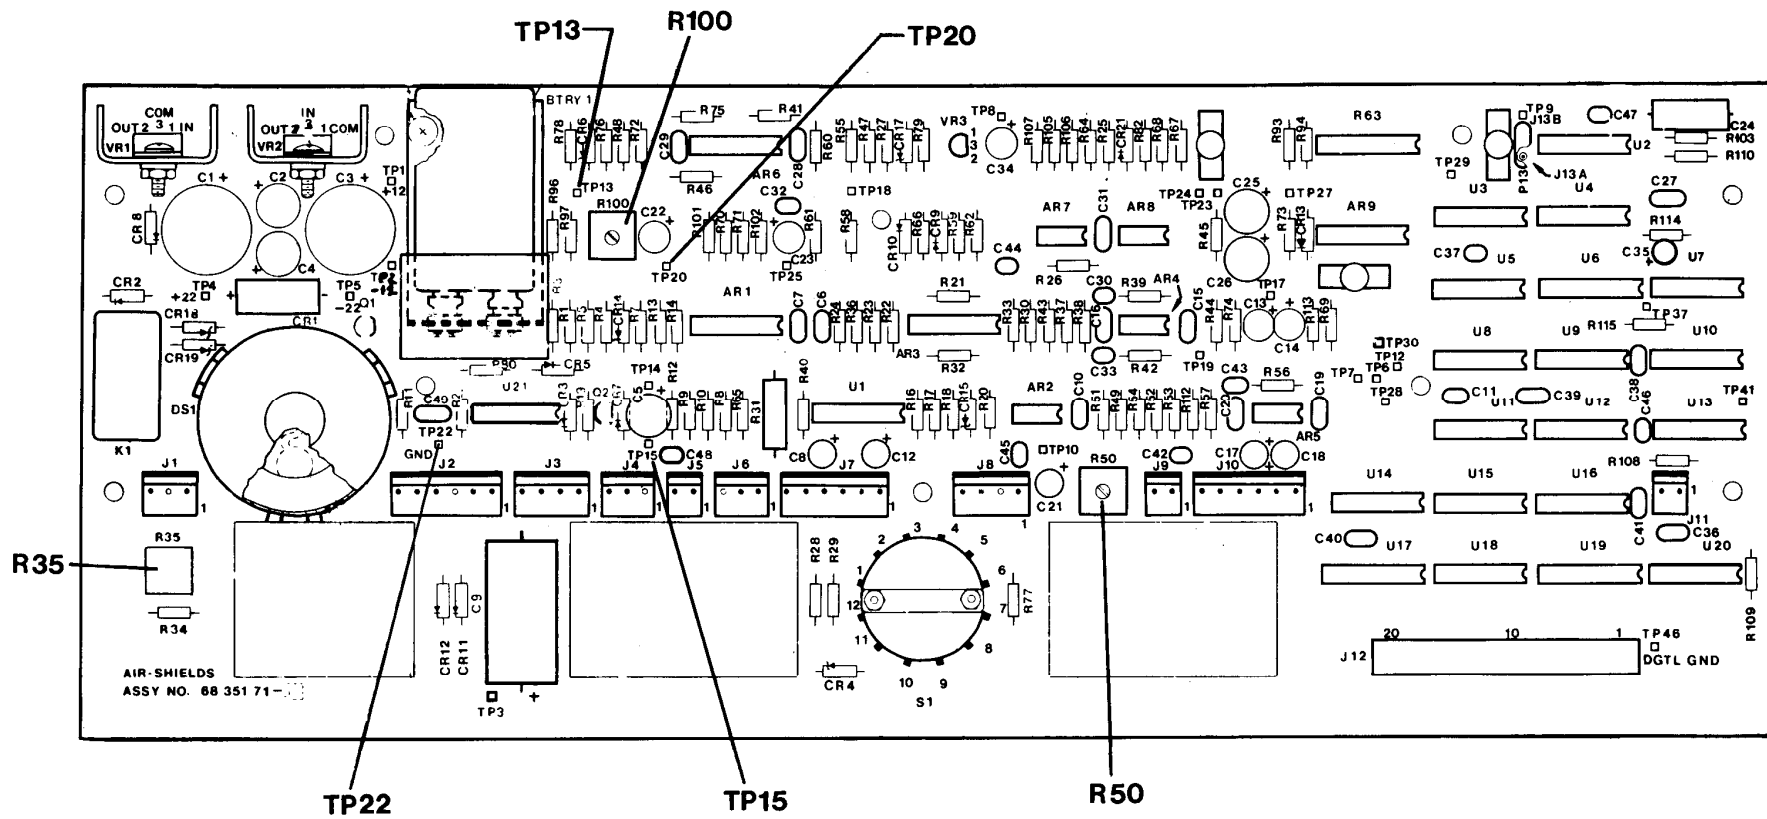

FIGURE 5.1 PCB2 (MODEL C100), LOCATION OF TEST POINTS AND ADJUSTMENTS
3. On the Simulator, set the MODE switch to AIR and the TEMP switch to  $36^{\circ}\text{C}$ . Refer to Figure 5.1 for location of test points and adjustments.
1. Refer to Figure 5.1 and connect the DVM between TP20 (+) and TP22 on PCB2.